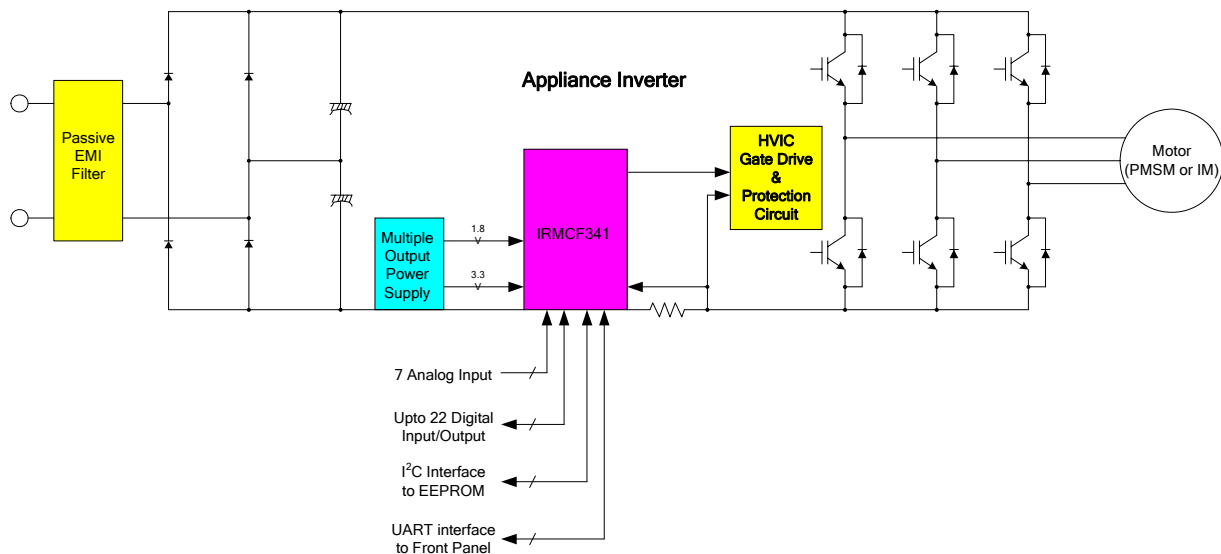

Figure 1. Typical Application Block Diagram Using IRMCF341
- Figure 1. Typical Application Block Diagram Using IRMCF341 3
IRMCF341 is International Rectifier’s new integrated circuit device primarily designed as a one-chip solution for sensorless permanent magnet motor control in appliance applications. Unlike a traditional microcontroller or DSP, IRMCF341 provides a built-in closed loop sensorless control algorithm using a unique Motion Control Engine (MCE™) for surface/interior permanent magnet motors with sinusoidal back EMF. IRMCF341 also employs a unique single shunt current reconstruction circuit to eliminate additional analog/digital circuitry and enables a direct shunt resistor interface to the IC. The MCE™ consists of a collection of control elements, motion peripherals, a dedicated motion control sequencer and dual port RAM to map internal signal nodes. Motion control programming is achieved by using a dedicated graphical compiler integrated into the MATLAB/Simulink™ development environment. Sequencing, user interface, host communication, and upper layer control tasks can be implemented in the 8051 high-speed 8-bit microcontroller. The 8051 microcontroller is equipped with a JTAG port to facilitate emulation and debugging tools. Figure 1 shows a typical application schematic using the IRMCF341.